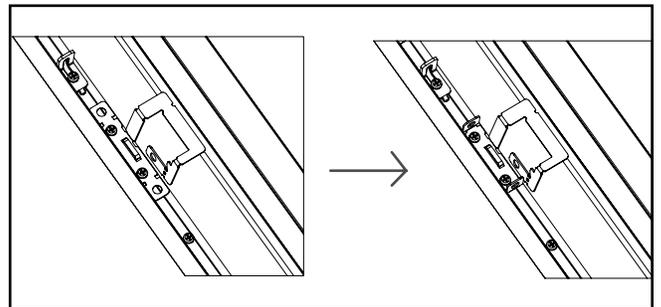

**Figure 15.**
10. Cover wires with access plate and re-install screws to finish installation (See Fig.15).